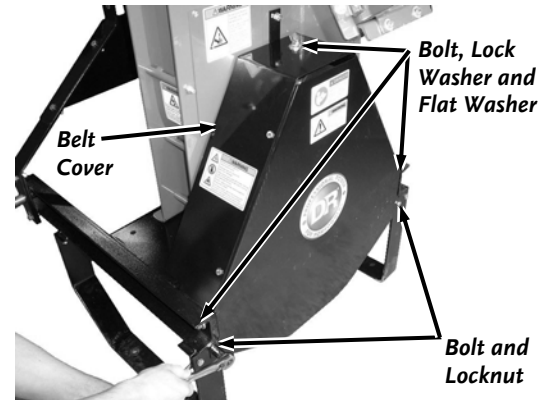

Figure 30
1. Remove the two Bolts and Locknuts from the bottom of the Belt Guard using two 1/2" Wrenches (**Figure 30**).